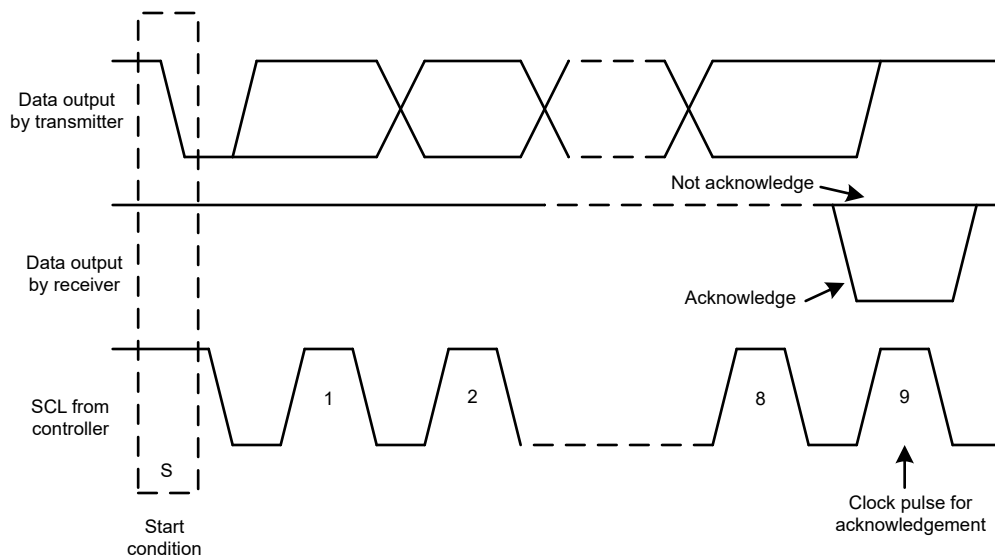
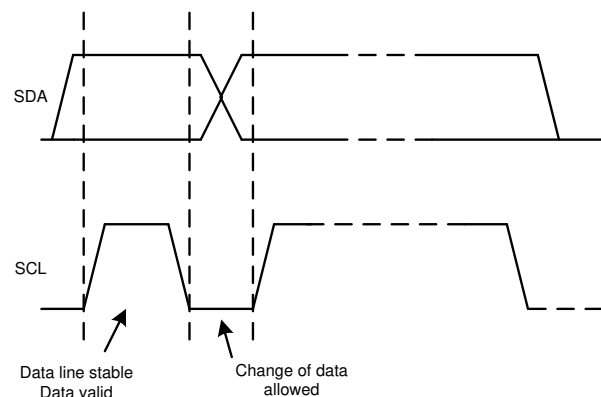

Figure 6-18. Acknowledge and Not Acknowledge on the I²C Bus
Figure 6-20. Bit Transfer on the I²C Bus
Other than specific timing signals, the I²C interface works with serial bytes. At the end of each byte, a ninth clock cycle generates and detects an acknowledge signal. An acknowledge is when the SDA line is pulled low during the high period of the ninth clock cycle. Figure 6-18 depicts a not-acknowledge, when the SDA line is left high during the high period of the ninth clock cycle.
2. The controller then generates the SCL pulses, and transmits the 7-bit address and the read/write direction bit ($R/\overline{W}$) on the SDA line. During all transmissions, the controller makes sure that data are valid. Figure 6-20 shows that a valid data condition requires the SDA line to be stable during the entire high period of the clock pulse. All devices recognize the address sent by the controller and compare the address to the respective internal fixed address. Only the target device with a matching address generates an acknowledge by pulling the SDA line low during the entire high period of the 9th SCL cycle (see also Figure 6-18). When the controller detects this acknowledge, the communication link with a target has been established.